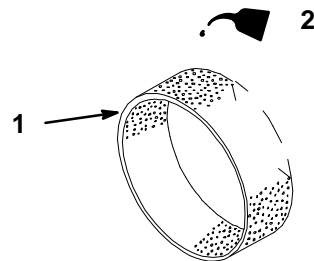

Figure 11
- C. Put one or two ounces of oil on the element (Fig. 11). Squeeze the element to distribute the oil.